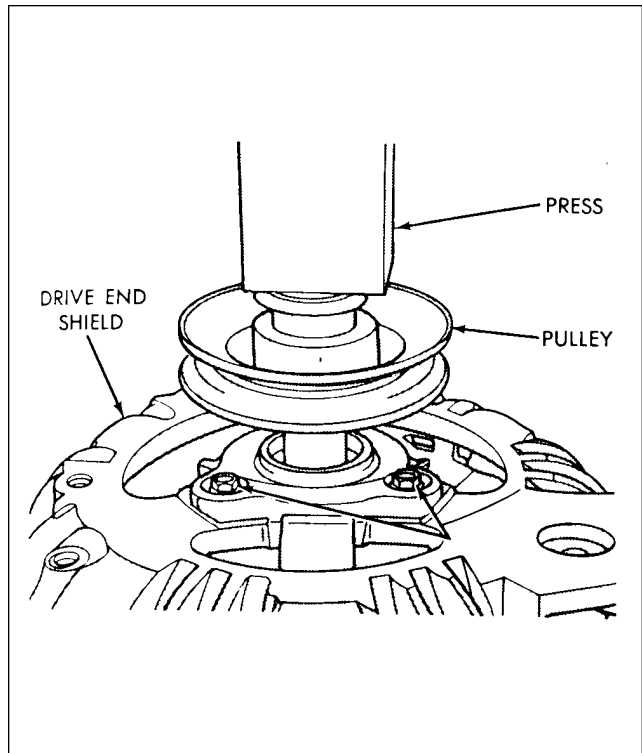

Figure 24-21. Installation of Pulley Shield Bearing
5. Install the pulley on the rotor shaft. The rotor shaft must be supported in a manner which will direct all the pressing force on the pulley hub and rotor shaft. (Refer to Figure 24-21.)